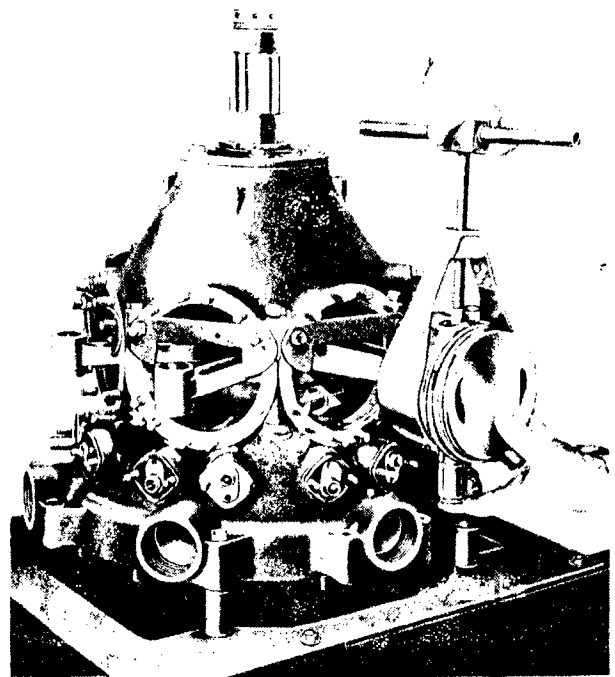

Figure 37 — Removing Piston Pin
(7) Remove the piston from No. 2 articulating rod by withdrawing its full floating piston pin. (See figure 37.) Remove the piston pin plugs from the piston pin and place both parts in their separate containers, and the pistons in